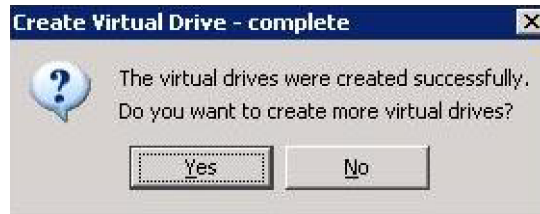

Figure 139. Option to Create Additional Virtual Drives
8. After the configuration is completed, a dialog box notifies you that the virtual drives were created successfully, as shown in Figure 139. If more drive capacity exists, the dialog box asks whether you want to create more virtual drives. If no more drive capacity exists, you are prompted to close the configuration session.